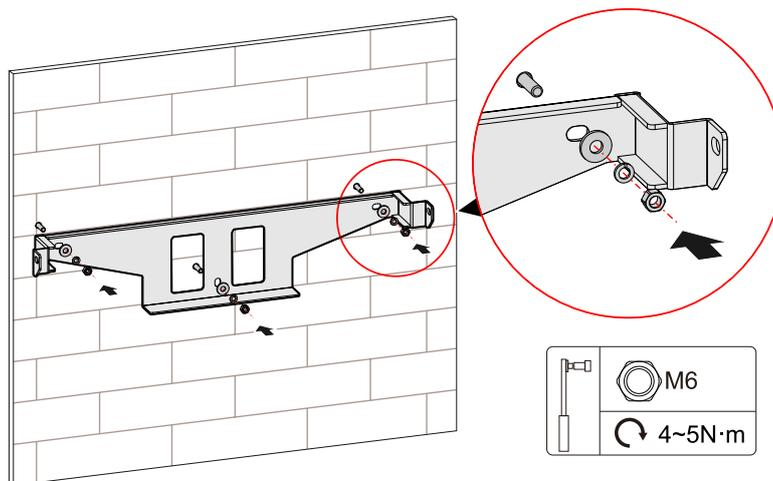

Figure3-12 Fasten the installation holder
Step 4 Align the holes of installation holder with the expansion bolts and install the flat gasket, spring gasket and nut into the expansion plugs and fasten them by wrench, as shown in Figure3-12.